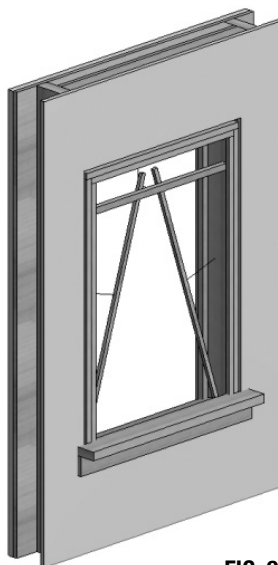

FIG. 9
- E) If applicable, remove parting stops from head and side jambs. (Fig. 9)